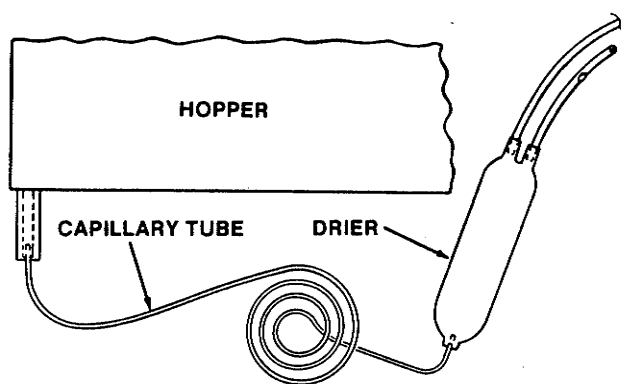

Figure 44. Capillary Tube and Drier Assembly
3. Position the smaller diameter tube at the back of the hopper and braze the tube to the hopper inlet using the appropriate brazing material (Fig. 44).